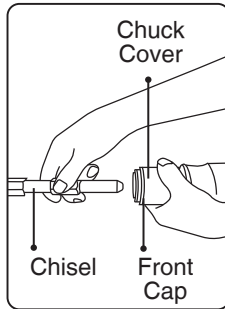

Fig 1
4. To remove the chisel, pull the chuck cover down all the way and pull the chisel out. (Fig1)